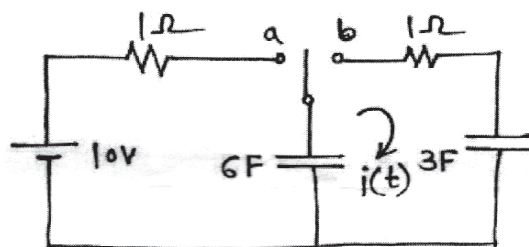

Fig. 7
b) In the network shown in Fig. 7, the switch is moved from position a to b at $t = 0$. Determine expression for $i(t)$ using Laplace Transform approach. [6]